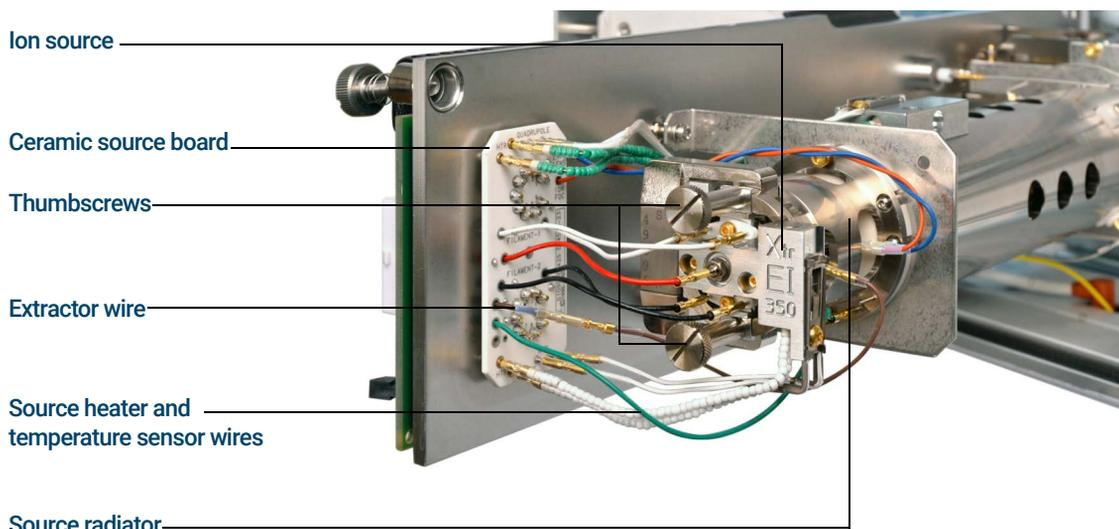

Figure 68. Installing the EI source
- 1 Slide the ion source into the source radiator. (See Figure 68.)
- 2 Insert and hand tighten the source thumbscrews. Do not overtighten the thumbscrews. (See Figure 68.)